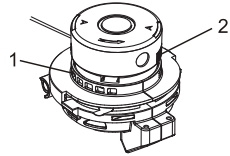
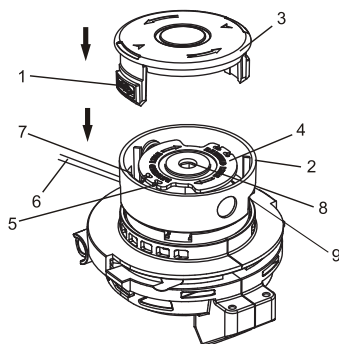
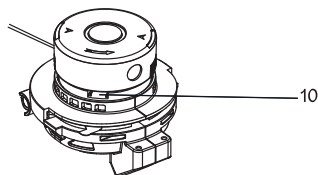

Fig. 10
Fig. 13
Fig. 14
1. Press the spool locking buttons (1) & (2) on each side of the spool (Fig.10).
2. Pull the loose end of the trimmer line out of the retaining slot (5) in the spool (Fig.13).
4. Thread the loose end of the trimmer line (6) through the hole (7) in the spool housing (2).
5. While holding, pull slightly to tighten the line, and then slide it into the spindle (8) until it bottoms out.
6. Once the replacement spool is fully inserted into the spool housing, replace the spool cap (3) by inserting the locking buttons (1) into the spool housing.
7. Press the spool cap fully into the spool housing until the locking buttons "click" into the matching holes (9) in the spool housing.
8. When the new trimmer line spool is installed, approximately 3" /7.6 cm of trimmer line should be exposed beyond the spool housing. If it is too long, cut it to length with scissors. If it is too short, press the line release button (10) on the trimmer line housing and gently pull on the exposed trimmer line (Fig. 14).
Press the line release button (10) on the trimmer line housing and gently pull on the exposed trimmer line until 3"/7.6 cm of line is exposed beyond the spool housing (Fig. 14).
Remove the spool from the spool housing, unwind approximately 3" /7.6 cm of line and reinstall the spool (Fig.10 through Fig. 14).
Remove the spool from the spool housing, unwind all the trimmer line from the spool and rewind the trimmer line onto the spool (Fig.10 through Fig. 14).
- b) Carefully wind the trimmer line onto the spool evenly to avoid overlapping wraps that will cause further jamming (Fig.13).